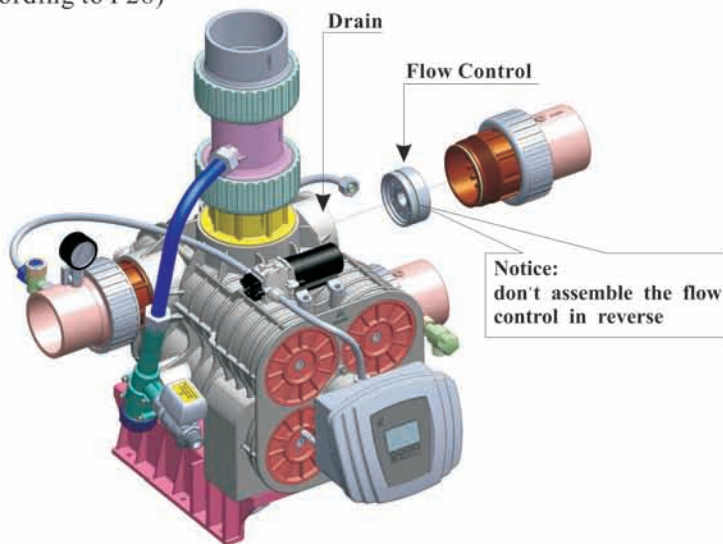

Figure 1-4
c. As Figure 1-4 shows, unscrew the drain connector with a wrench, take out the drain line flow control, and replace it with the one meets the requirements. (Please drill holes according to P28)